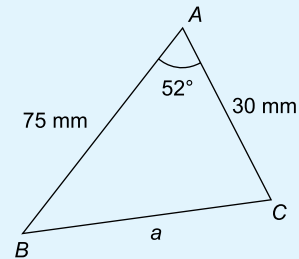

Figure 1.10
- In the triangle ABC shown in Figure 1.10, side ' a ' is equal to:
- In the triangle ABC shown in Figure 1.10, $\angle B$ is equal to: